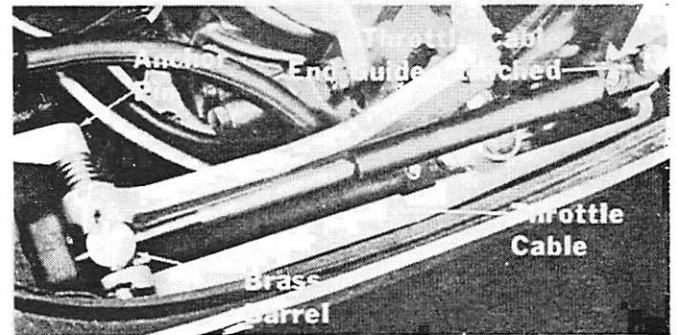

Figure 8. Securing Brass Barrel with Anchor Pin
2. Secure barrel in position with anchor pin. (Figure 8)